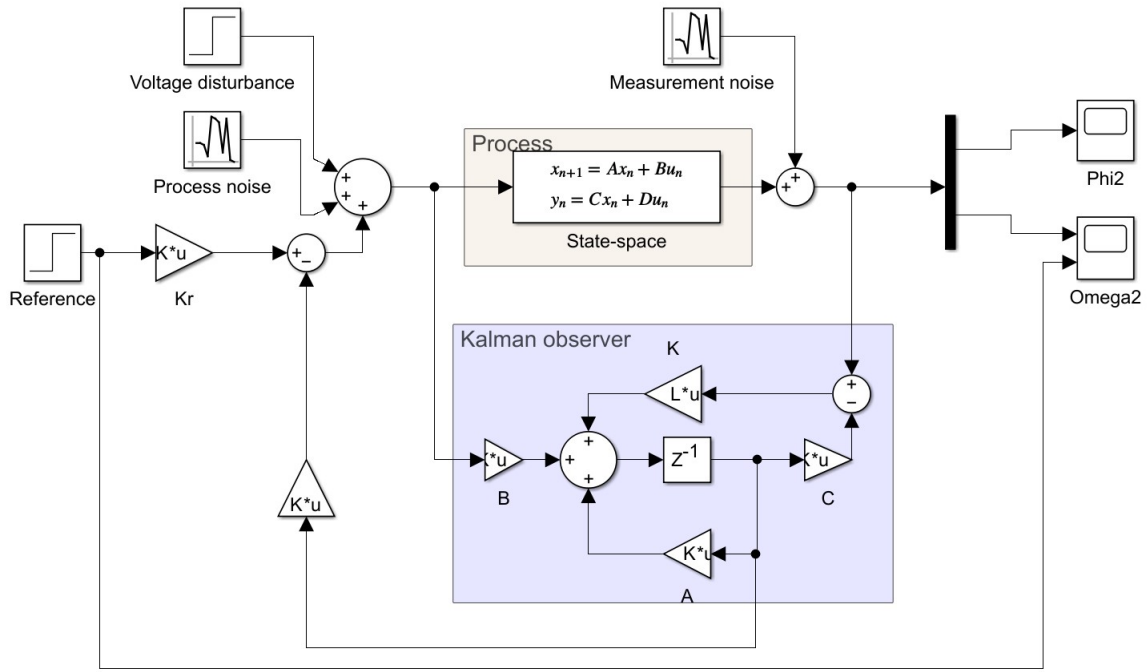

Figure 3: Reference Gain Simulink Model
- The Simulink model used for reference gain controller is shown in figure 3.